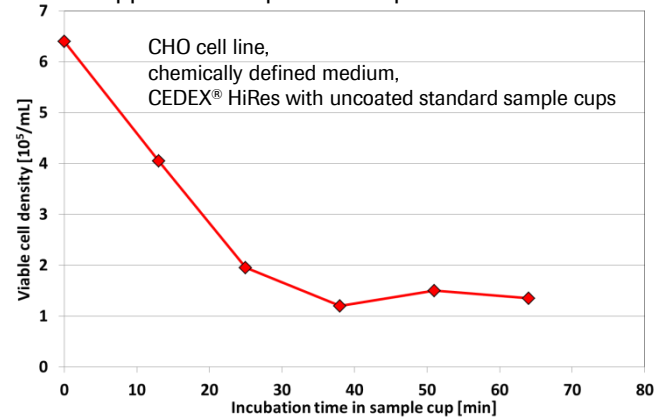

Figure 1: Adsorption of cells to standard sample cup
- styrene acrylonitrile (Cedex® cups, see figure 1)